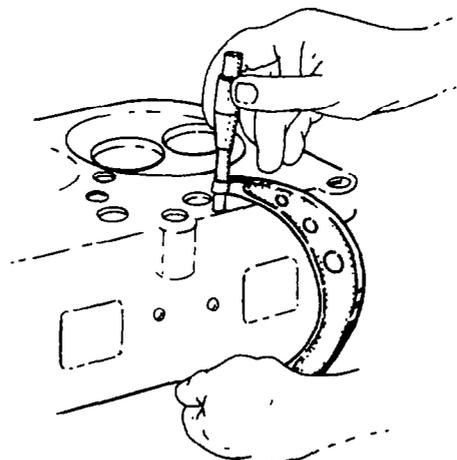

Fig. 9 — Measuring Cylinder Head
- c. After machining, recheck the thickness of the cylinder head with a micrometer to ensure that it is within specifications (see fig. 9).